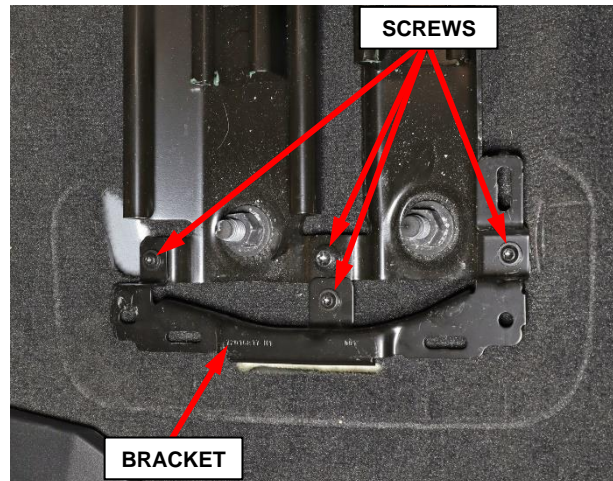

Figure 15 – Trim Bracket and Screws
8. Remove the seat track connector screw and the seat track trim cover bracket screws then remove the seat trim cover bracket (Figure 15).